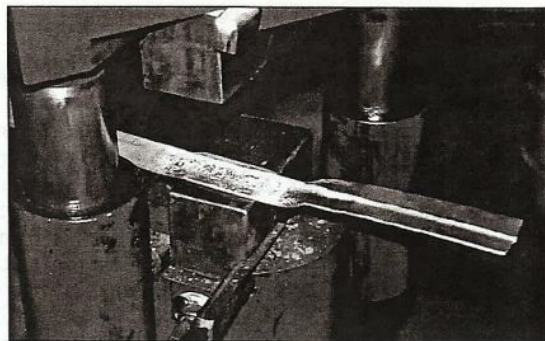

Fig. 1
3. Lightly hammer the web, driving the flanges out, flattening the angle. Take care to not overly flatten the web as this will become your quill and shaft (see fig. 1). This may be done on a power hammer or by hand.